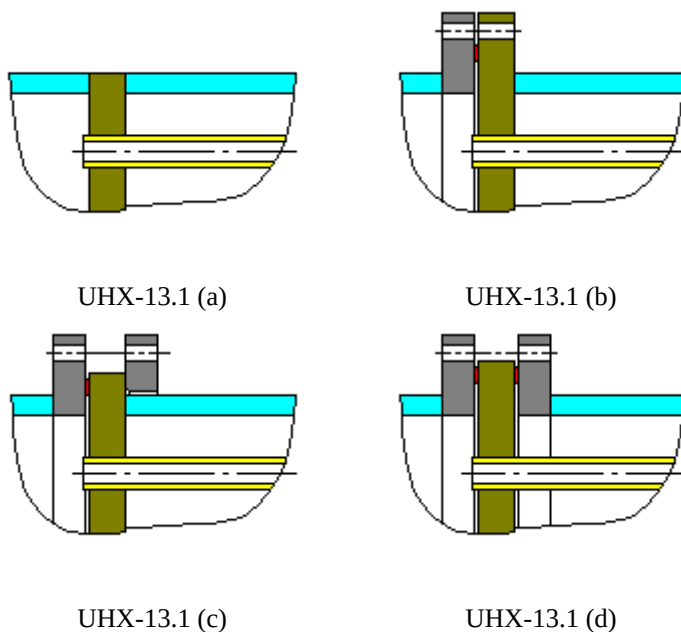

Fig. 3.144 Tube plate fixing as per ASME VIII-1
Heat exchanger design according to ASME VIII-1(2) is possible. In this case, design options are shown in Fig. 3.144. For a heat exchanger according to ASME, the “Kettle Shell Exchanger” option is available; in this case, the boiler parameters are set on the “Expander 1” tab.